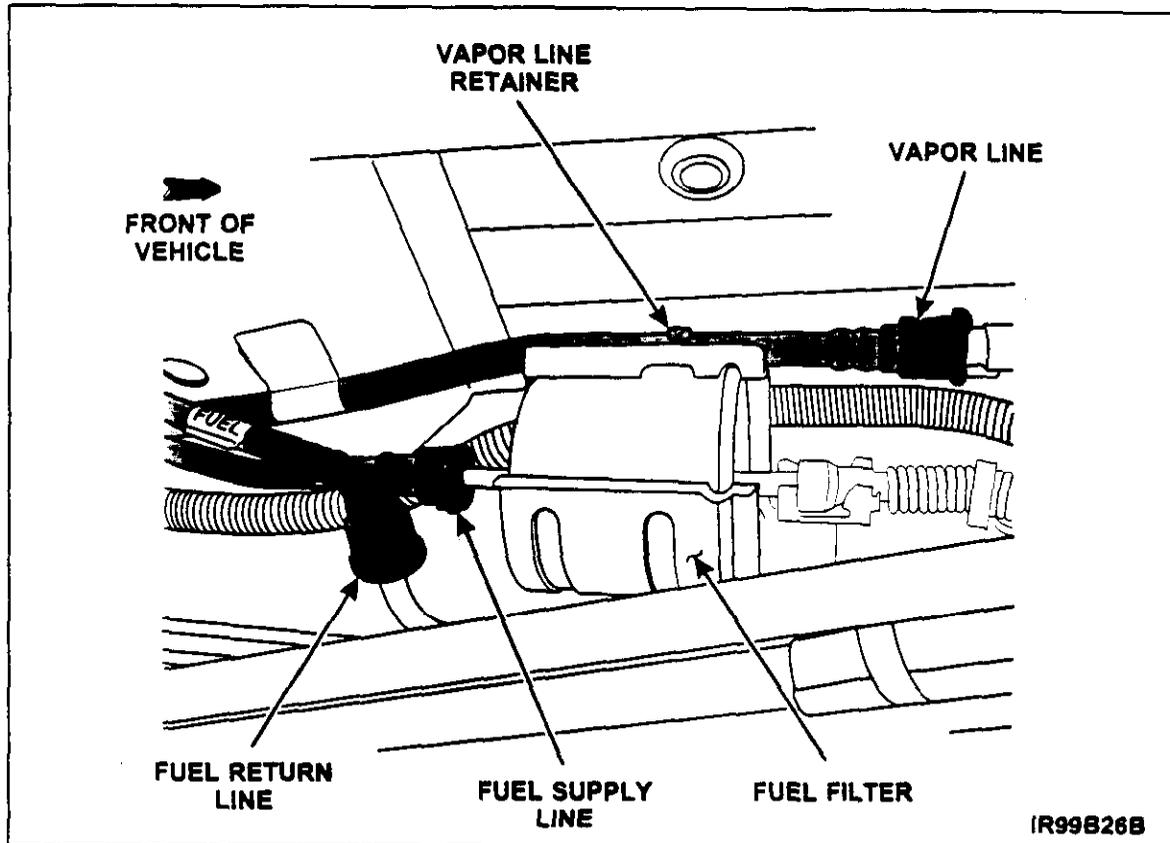

FIGURE 2
8. Disconnect the fuel supply line from the rear of the fuel filter. See Figure 2.
9. Disconnect the fuel return line from the fitting located just below and behind the fuel filter. See Figure 2.
10. Disconnect the vapor line from the fitting located near the fuel filter. Detach the vapor line from the retainer in the fuel filter bracket. See Figure 2.